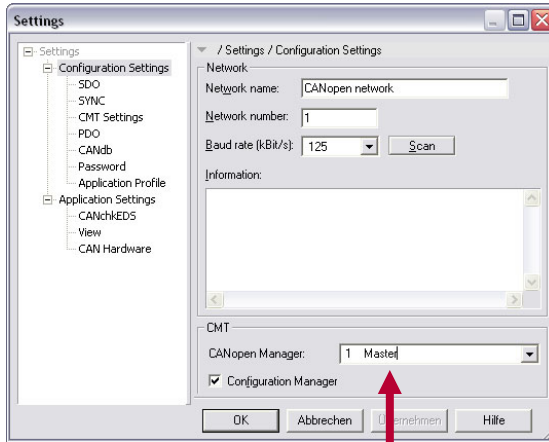
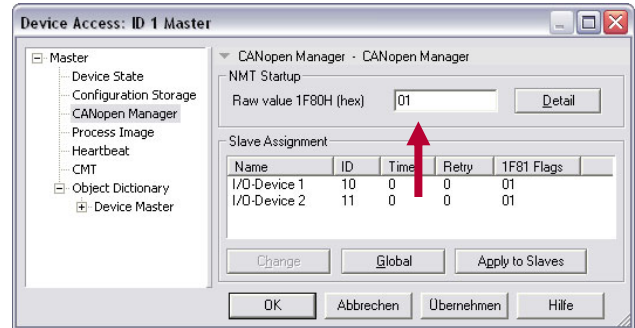

Figure 1 - Set the NMT Master
Figure 2 - Configure the CANopen Manager
A10. Open the dialog **Options | Settings... | Configuration Settings** and select your NMT Master as the CANopen Manager (see Figure 1). If it is a real CANopen Manager you have to open the **Device Access** dialog of this device and define it on page **CANopen Manager** (see Figure 2).
- Open page **Configuration Settings** and select your NMT Master as the CANopen Manager (see Figure 1). If it is a real CANopen Manager you have to open the **Device Access** dialog of this device and define it on page **CANopen Manager** (see Figure 2).